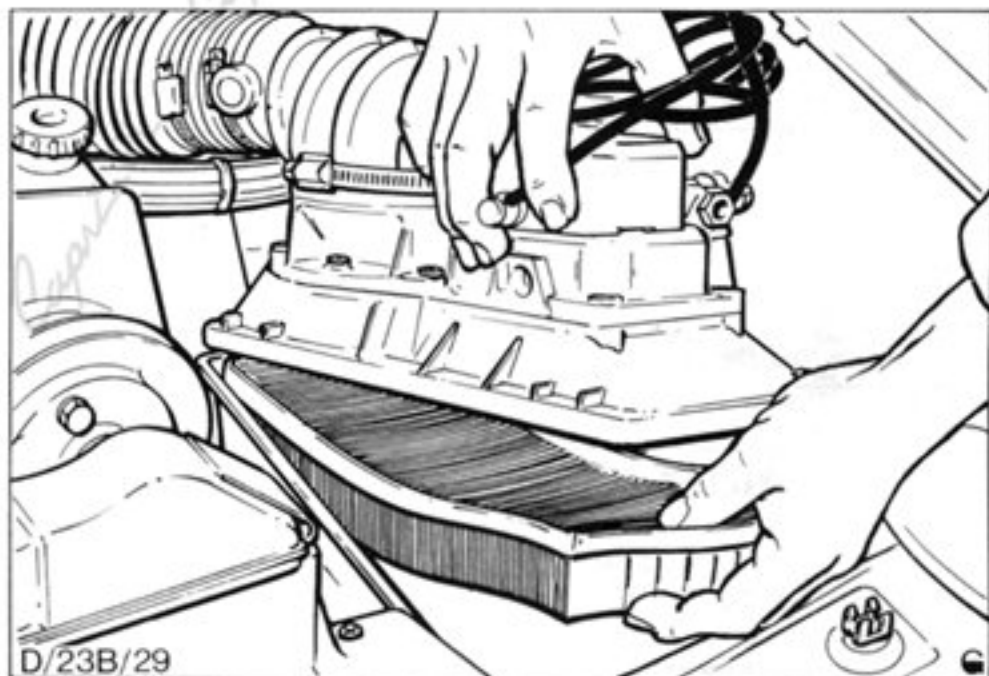

Fig.69. Air cleaner filter removal.
4. Carefully raise fuel distributor assembly and detach air cleaner element. Refer Fig.69.